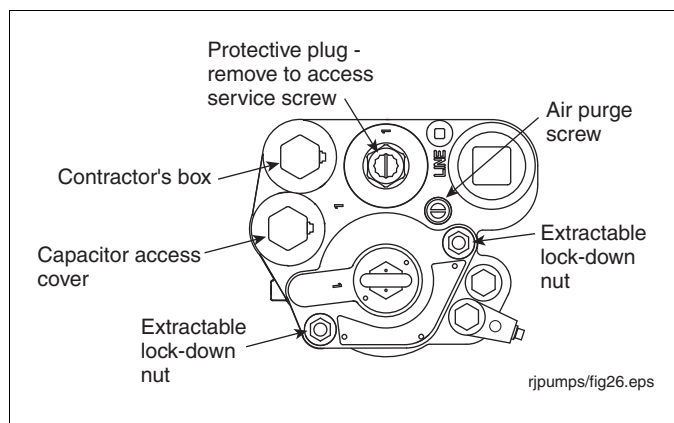

Figure 35. Extractable Lock-Down Nuts
2. Remove the two extractable lock-down nuts (see Figure 35). The springs on the lock-down studs between the extractable's flange and the manifold will push it up, breaking the seals.
20. Turn the air purge screw 2 - 3 turns counterclockwise (see Figure 35).